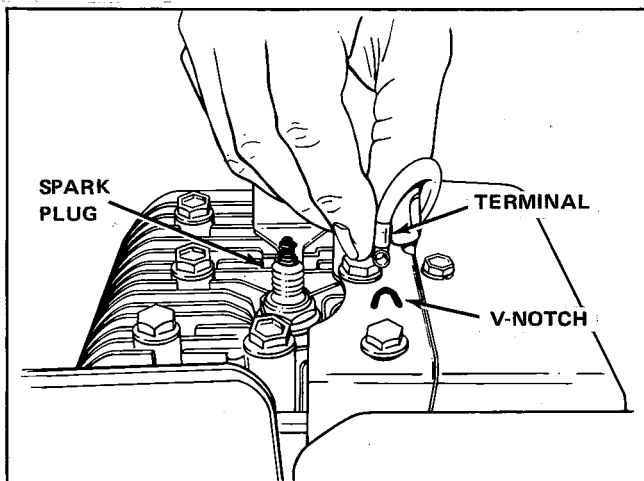

Figure 14. Inserting Terminal In V-Notch
1. Disconnect plug wire and fasten it in V-notch on cylinder cover. See figure 14 if necessary.
To avoid serious injury, perform maintenance on the tiller only when the engine is stopped. Also, remove the spark plug or remove spark plug wire and insert terminal in V-notch on cylinder cover. (See figure 14 if necessary)
For your personal safety, stop tiller engine. Remove spark plug or remove spark plug wire and insert terminal in V-notch on cylinder cover (see figure 14).
To avoid serious injury, perform adjustments on tiller only when the engine is stopped. Always remove spark plug or remove spark plug wire and insert terminal in V-notch on cylinder cover. See figure 14.